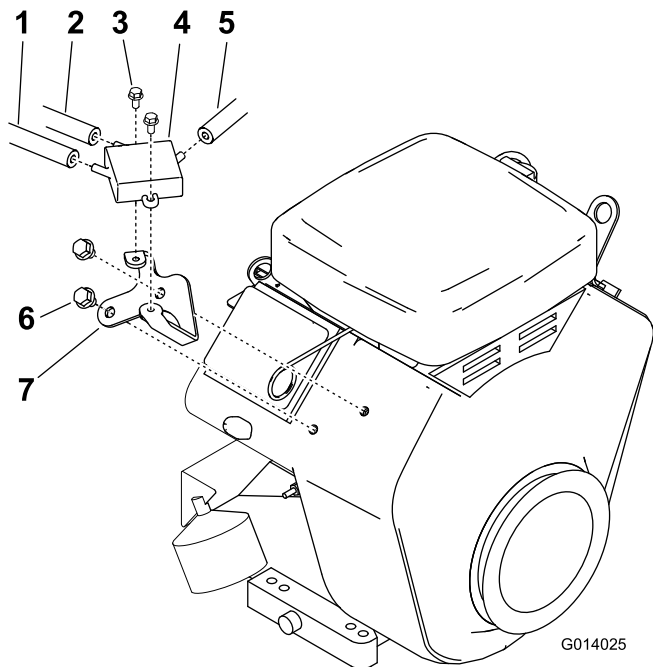

Figure 3
6. Install the new bracket with the 2 new bolts (Figure 3).
7. Flip the fuel pump over and install the fuel pump to the new bracket with the 2 bolts removed from the engine (Figure 3).